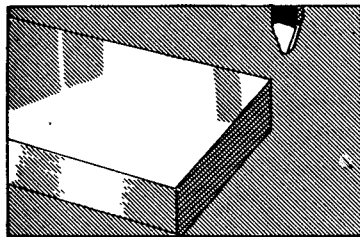

FIG. 484
4. Stop the machine when the tool is at the beginning of the stroke (Fig. 484).